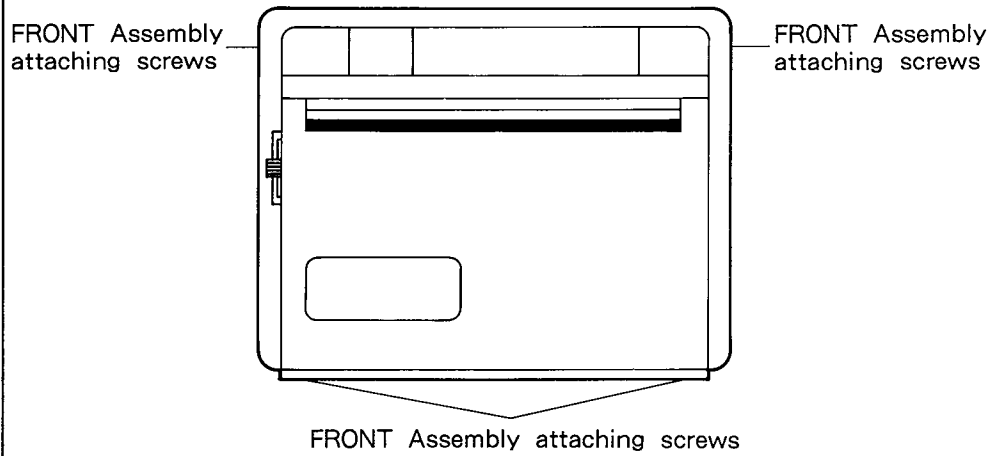

Fig. 4 FRONT assembly
6. Remove 4 screws securing the FRONT assembly.(Fig. 4)
7. Remove the KNOB. (Fig. 4)